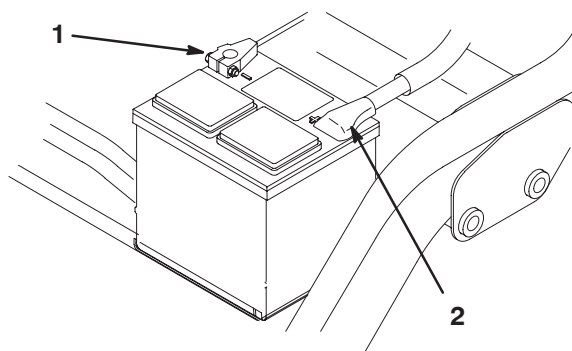

Figure 6
7. First, install the positive cable (red) to the positive (+) terminal and then the negative cable (black) to the negative (–) terminal of the battery and secure them with the bolts and nuts (Fig. 6). Slide the rubber boot over the positive terminal to prevent a possible short from occurring.